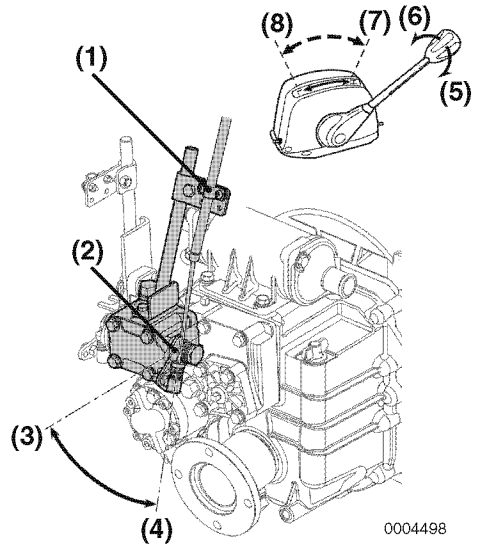

Figure 9
1. Ensure that the trolling lever (**Figure 9, (2)**) is in the high-speed (**Figure 9, (4)**) position when the trolling remote control handle is in high-speed position (**Figure 9, (7)**).
2. Ensure that the trolling lever is in the low-speed (**Figure 9, (3)**) position when the trolling remote control handle is in low-speed position (**Figure 9, (8)**).
3. To adjust, loosen the adjustment screw of the cable fitting (**Figure 9, (1)**) and adjust the position of the cable.